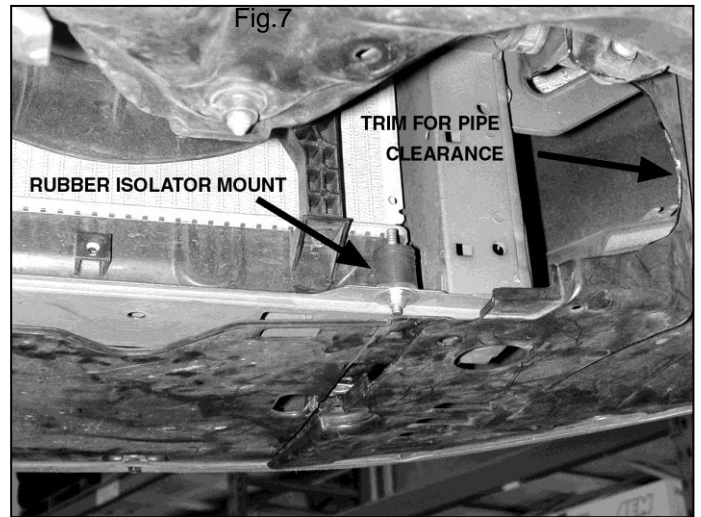

Fig.8
- j. Trim the inner fender liner for tube clearance, as shown. **(Fig. 8)**